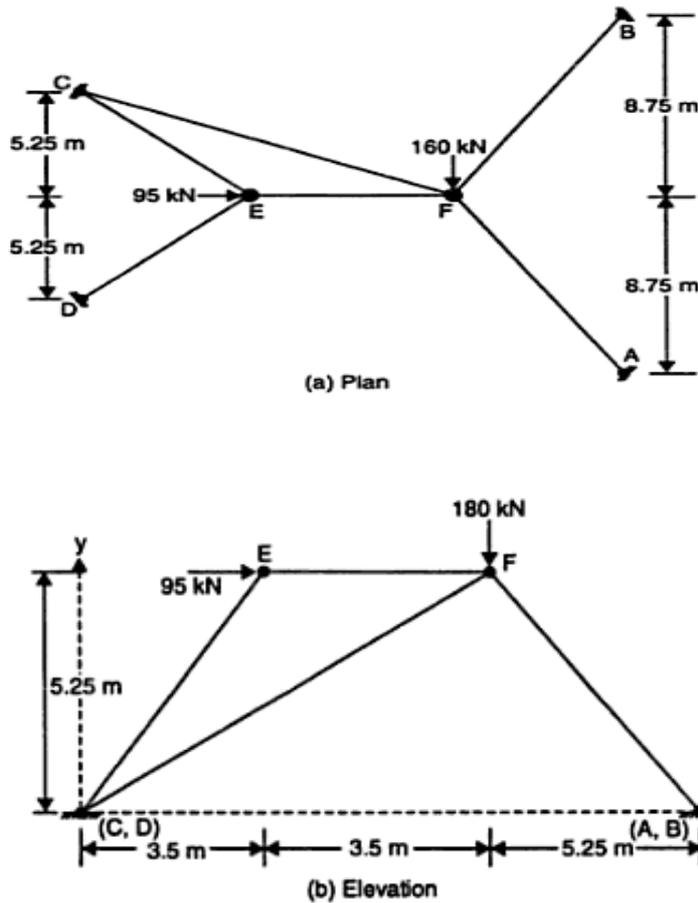

Fig.5
25. a) Analyse the space truss shown in fig.5 by the method of tension co-efficients and determine the forces in the members of the truss.